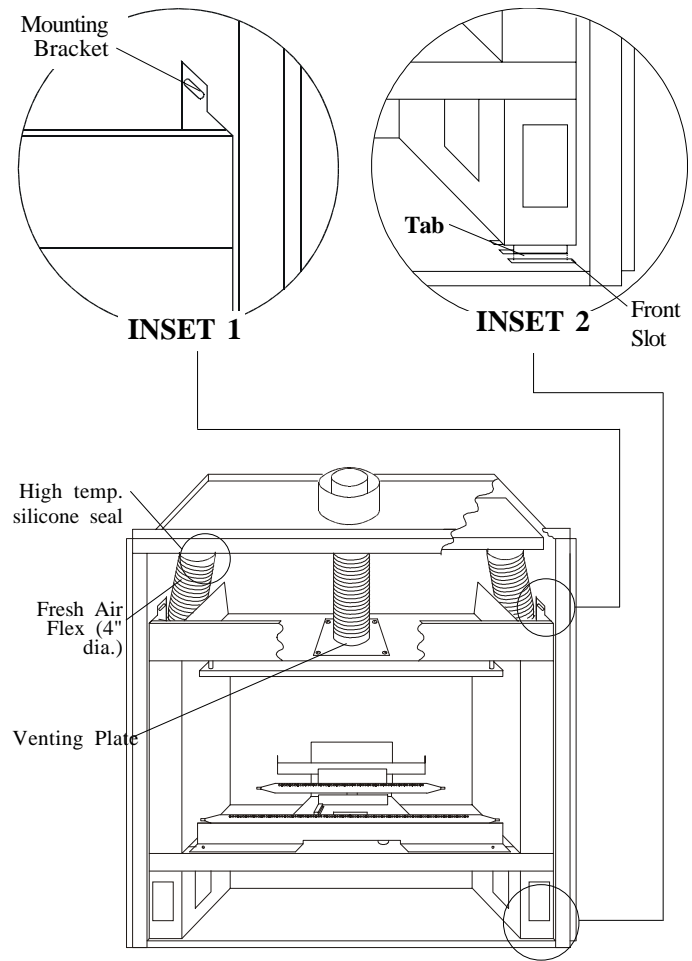

Figure 22. MD38-DV-2 insert.
2. Remove the fresh air flex from the collars on the shell. *See Figure 22. Important: Be careful not to damage the fresh air flex during removal or storage.*